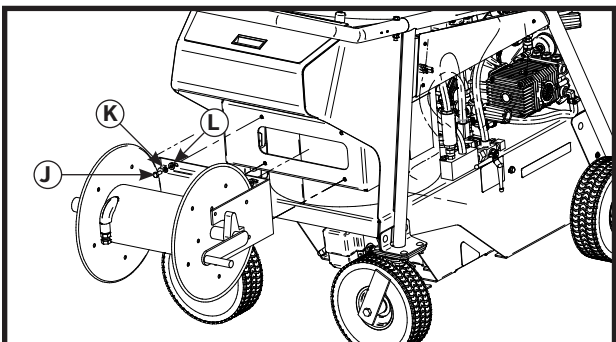

Figure 5
3. Install the reel to the reel support with 5/16" NC x 3/4" bolts, 5/16" lockwashers and 5/16" flat washers (J, K and L on figure 5).